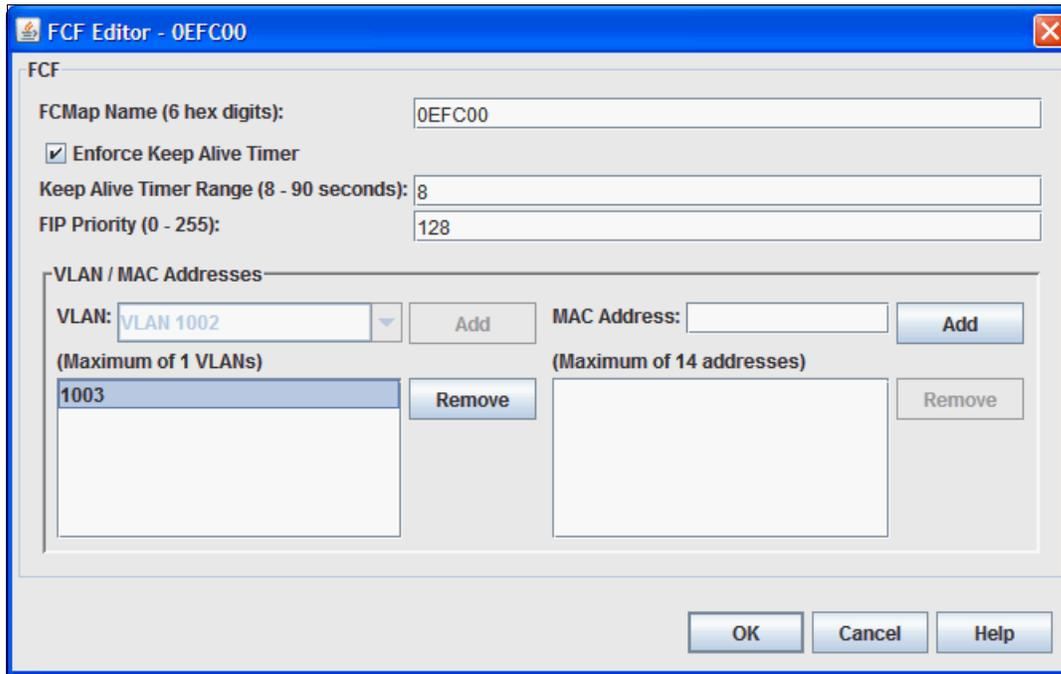

Figure 6-26 Virtual Fabric Extension Module FCF Editor
In the FCF Configurations list box, if you select **0EFC00**, and then click **Edit**, you see the results in the FCF Editor as shown in Figure 6-26 on page 135.
6. In the FCF Editor window (Figure 6-26):